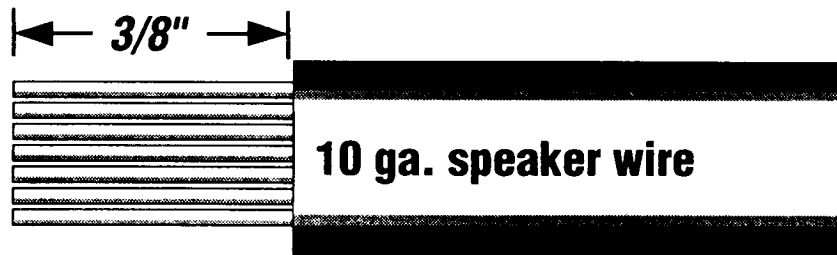

Figure 6: Wire Stripping
4. Strip each cable approximately $\frac{3}{8}$ inches (see Figure 6) and twist the exposed wire together.